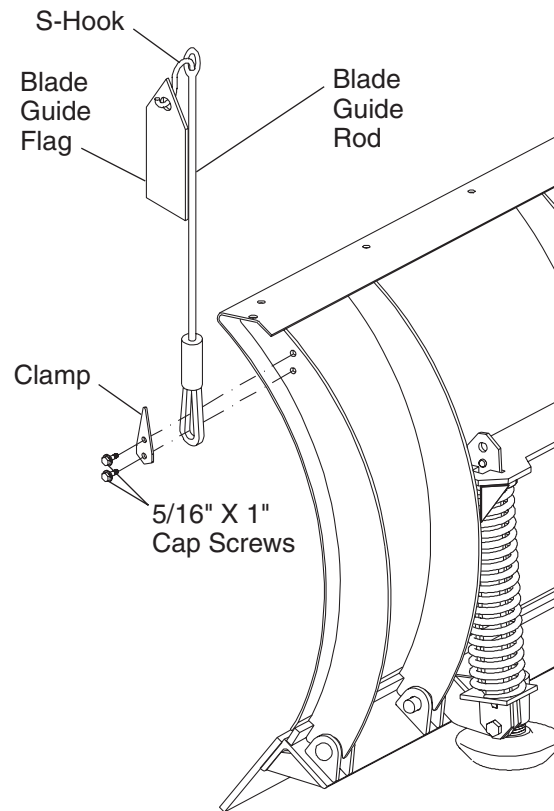

Figure 8
2. Attach a blade guide rod to each outer rib using 5/16" x 1" cap screws and locknuts. **(See Figure 8.)**